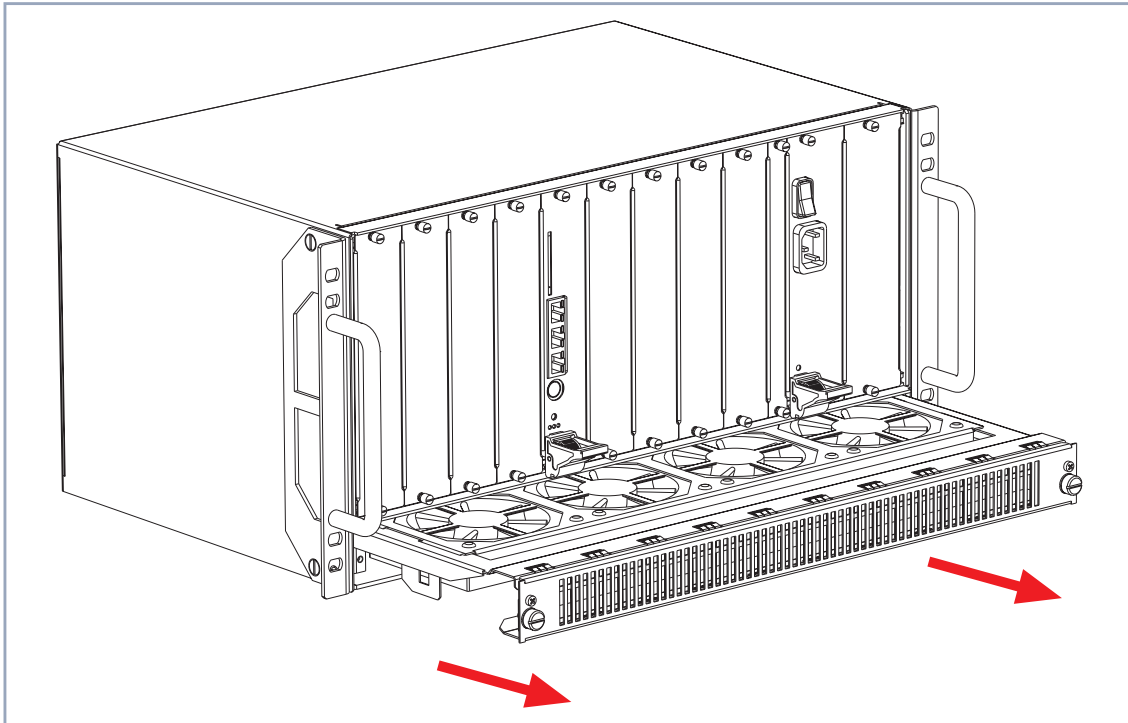

Figure 4-11: Drawing out the fan cassette from the **X8500** case
- Remove the fan cassette from the **X8500** case (see figure 4-11, page 48).
- Draw out the fan cassette from the **X8500** case, as shown in figure 4-11, page 48.